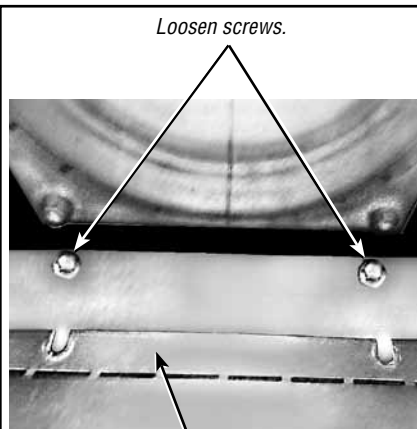
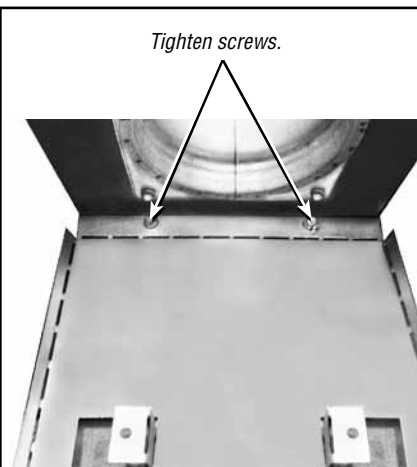

Figure 20
Figure 21
2. Install the **top vent flue restrictor** (Figure 20) under and behind the two screws loosened in the previous step, and then tighten the screws (Figure 21).